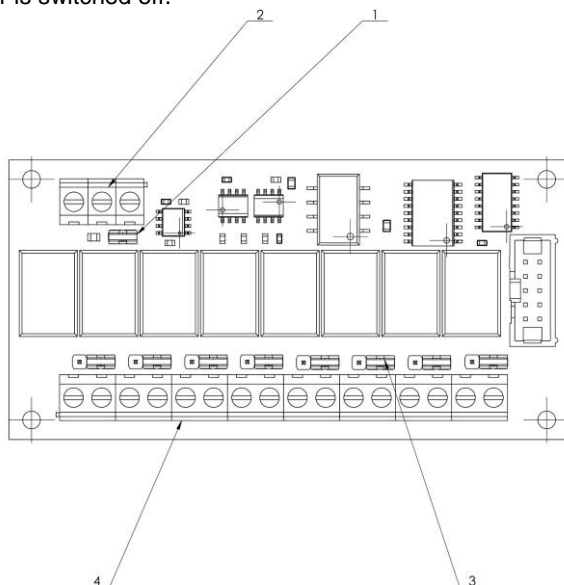

Fig.2
1.2. Configure the jumpers of the dry-contacts (normal open or normal close) depending on the specific project requirements, pos. 3 (fig. 2).
- if the connected fire control panel is the first or the last one in the network line, switch on the jumper in the module, pos. 1 (fig. 2).
3.2. The network line is connected to module 4201, on the terminals "A" and "B", pos. 2 (fig. 2).
3.3. Connect the end output devices lines in dry-contacts terminals of module 4201, pos. 4 (fig. 2).